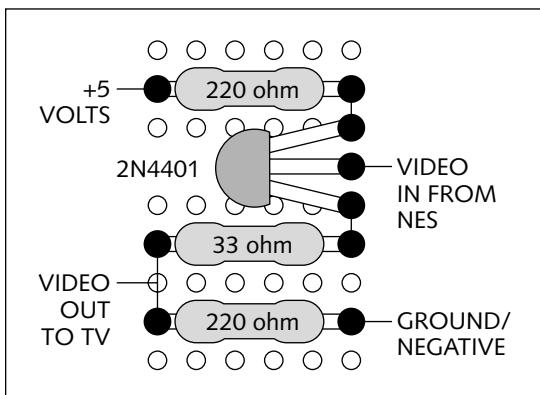

FIGURE 6-7: How to wire the video amplifier for the NES.
1. Create this circuit on a bit of circuit board, or just wire up the circuit and tape it down someplace on the NES board. Either way, connect the parts as shown in Figure 6-7.